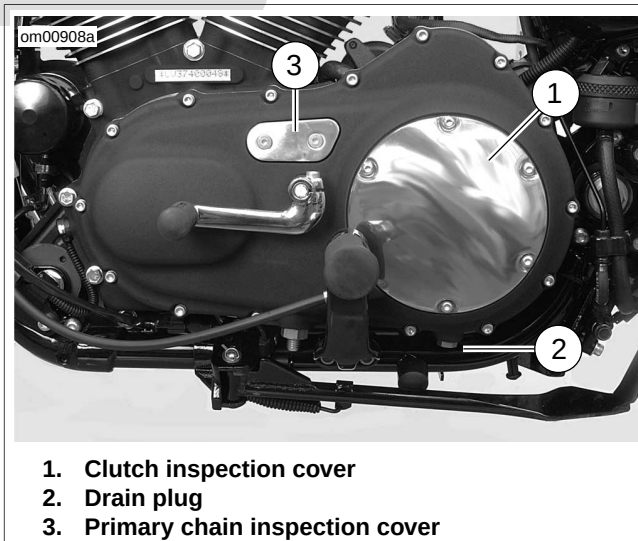

Figure 1-48. Primary Cover: Sportster Models (XL Model Shown)
5. See Figure 1-48. Remove screws with washers from clutch inspection cover (1). Remove clutch inspection cover from primary cover.
4. See Figure 1-48. Position a suitable container under transmission drain plug (2).